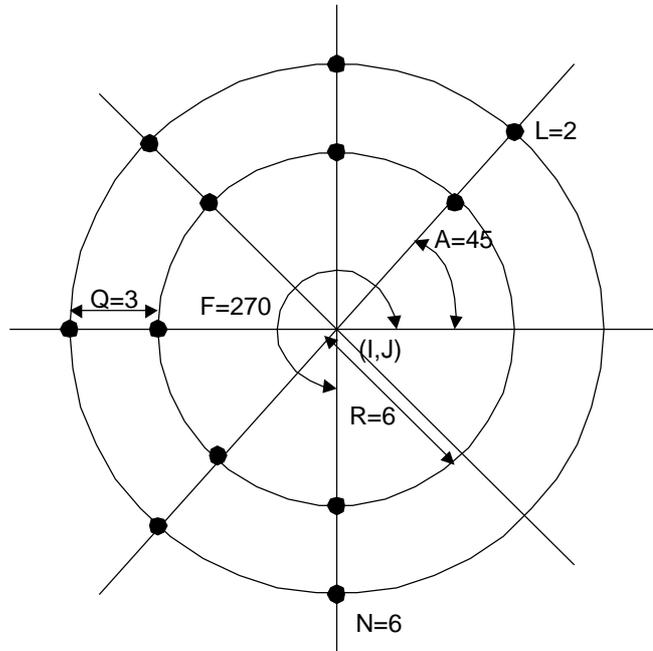
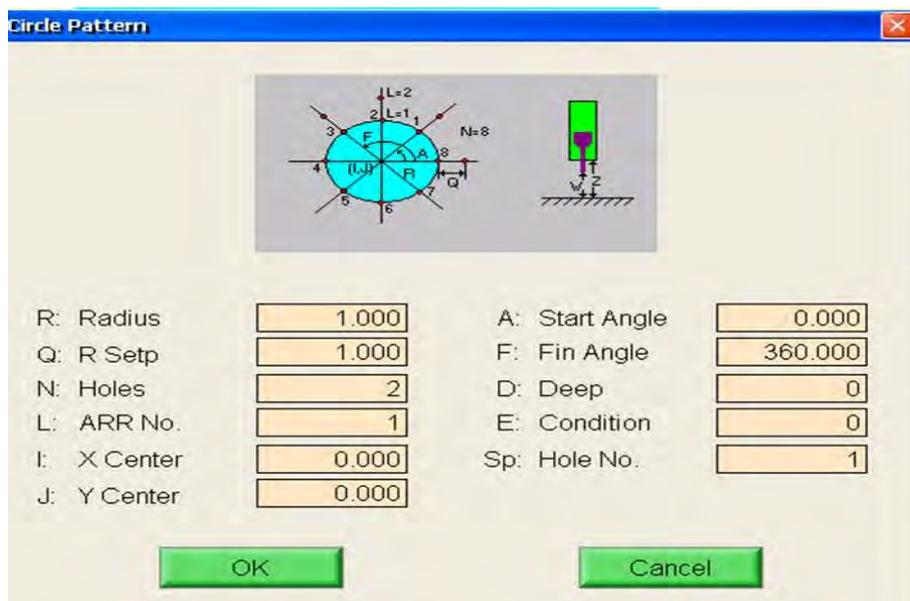

Figure 4-4-8 Circle Pattern Specification Illustration
Figure 4-4-9 Circle Pattern Screen
A user can edit a circle pattern composed of circle holes in simple dialog edit mode. The machined figure is as shown in Figure 4-4-8. Each solid circle point stands for a machined fine hole, and the screen of dialog edit window is as shown in Figure 4-4-9. The following is the description of what each field in the dialog edit window stands for.
- R:** Radius , Input range bigger than 0. Set the radius of the inmost circle in the circle pattern. In Figure 4-4-8, the radius of the inmost circle in the array is 6mm so R is 6.
- Q:** R Step, input range bigger than 0. Set the distance between each circle in the circle pattern. In Figure 4-4-8, the distance between the second circle and the inmost circle is 3mm so Q is 3.
- A:** St Ang. The input range is from 0 to 720. Set the angle (angle 0 stands for X direction of work coord) of the first hole in each circle in the circle pattern. In Figure 4-4-8, due to the angle of the first hole is 45°, A is 45.
- F:** Fin Ang. The input range is larger than A and smaller than  $A+360^\circ$  . Set the angle of the last hole of each circle in the circle pattern. In Figure 4-4-8, due to the angle of the last hole is 270°, F is 270.
- N:** Holes. Input range bigger than 0 integer. Set the total hole no. in each circle (including the first hole and the last hole). In Figure 4-4-8, due to the fact that each circle has 6 holes, N is 6.
- L:** ARR No. Set the total circle no. in the circle pattern. In Figure 4-4-8, due to the fact that there are total 2 circles, L is 2.
- I:** Abs(X0), input range bigger than 0. Set X coord of the center in the circle pattern. In Figure 4-4-8, due to the fact that X coord of the center in the circle pattern is 0, I is 0.
- J:** Abs(Y0), input range bigger than 0. Set Y coord of center in the circle pattern. In Figure 4-4-8, due to the fact that Y coord of the center in the circle pattern is 0, J is 0.